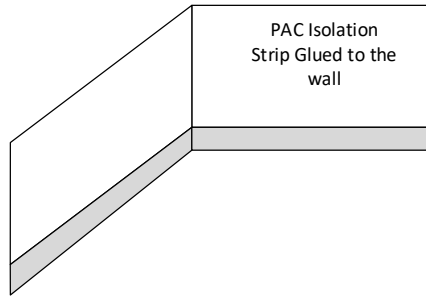

Figure 1
1. Attach the Perimeter Isolation Strip to the wall (see Figure 1) of the entire subfloor area intended for installation and around the perimeter of any protrusions using tape or spray adhesive. It will be trimmed later at the height of the finished floor.